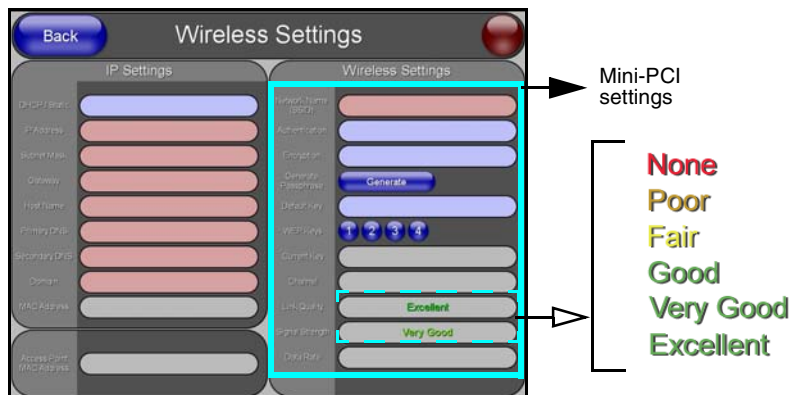

FIG. 59 Wireless Settings page (showing default values)
6. From within the Wireless Settings section of the Wireless Settings page, touch the *Network Name (SSID)* field (FIG. 59).
- The bargraphs have been replaced with descriptions: **None, Poor, Fair, Good, Very Good,** and **Excellent** (FIG. 59).